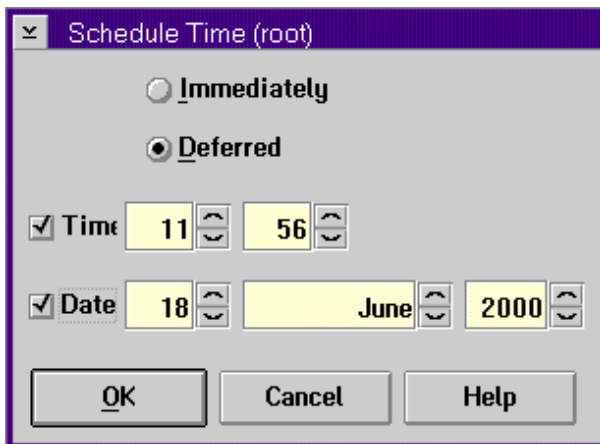

Figure 72. Schedule time window
- 8 Click on the first **Schedule...** push button. The Schedule Time window is displayed, as shown in Figure 72.